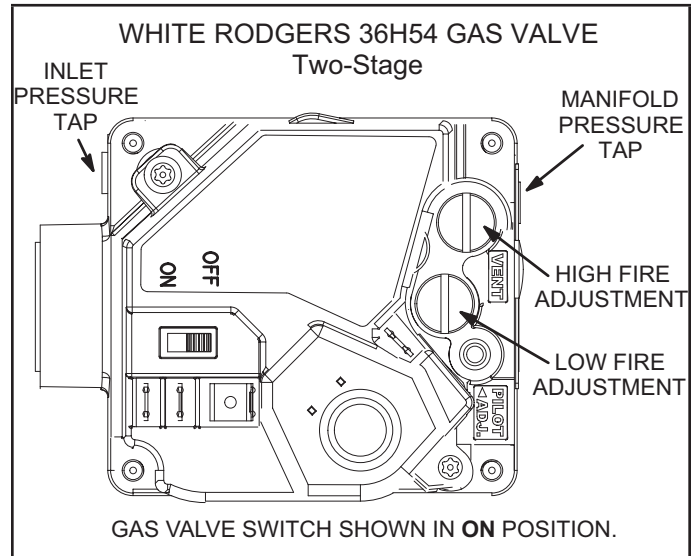
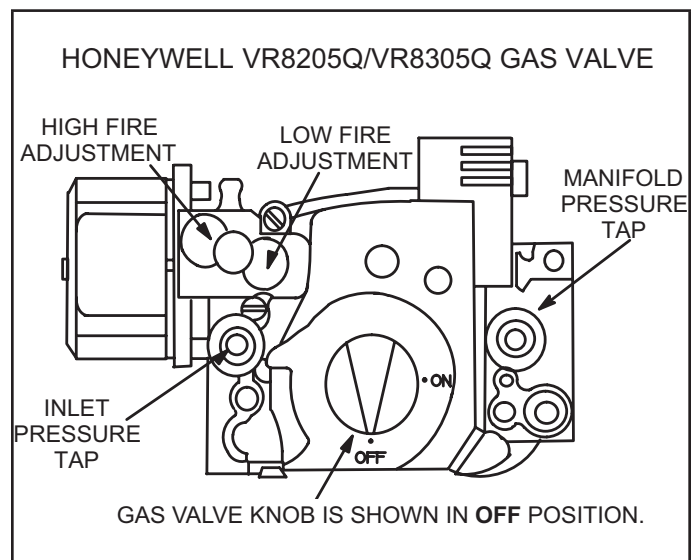

FIGURE 31
FIGURE 32
Gas Valve Operation for Honeywell VR8205Q/VR8305Q and White Rodgers 36H54 (FIGURE 31 and FIGURE 32).
- 5 - Turn gas valve switch to **OFF**. See FIGURE 31. On Honeywell VR8305Q gas valves, turn the knob on the gas valve clockwise to **OFF**. Do not force. See figure 27.
- 6 - Wait five (5) minutes to clear out any gas. If you then smell gas, **STOP!** Immediately call your gas supplier from a neighbor's phone. Follow the gas supplier's instructions. If you do not smell gas, go to the next step.
- 7 - Turn gas valve switch to **ON**. See FIGURE 31. On Honeywell VR8305Q gas valves, turn the knob on the gas valve counterclockwise to **ON**. Do not force. See FIGURE 32.